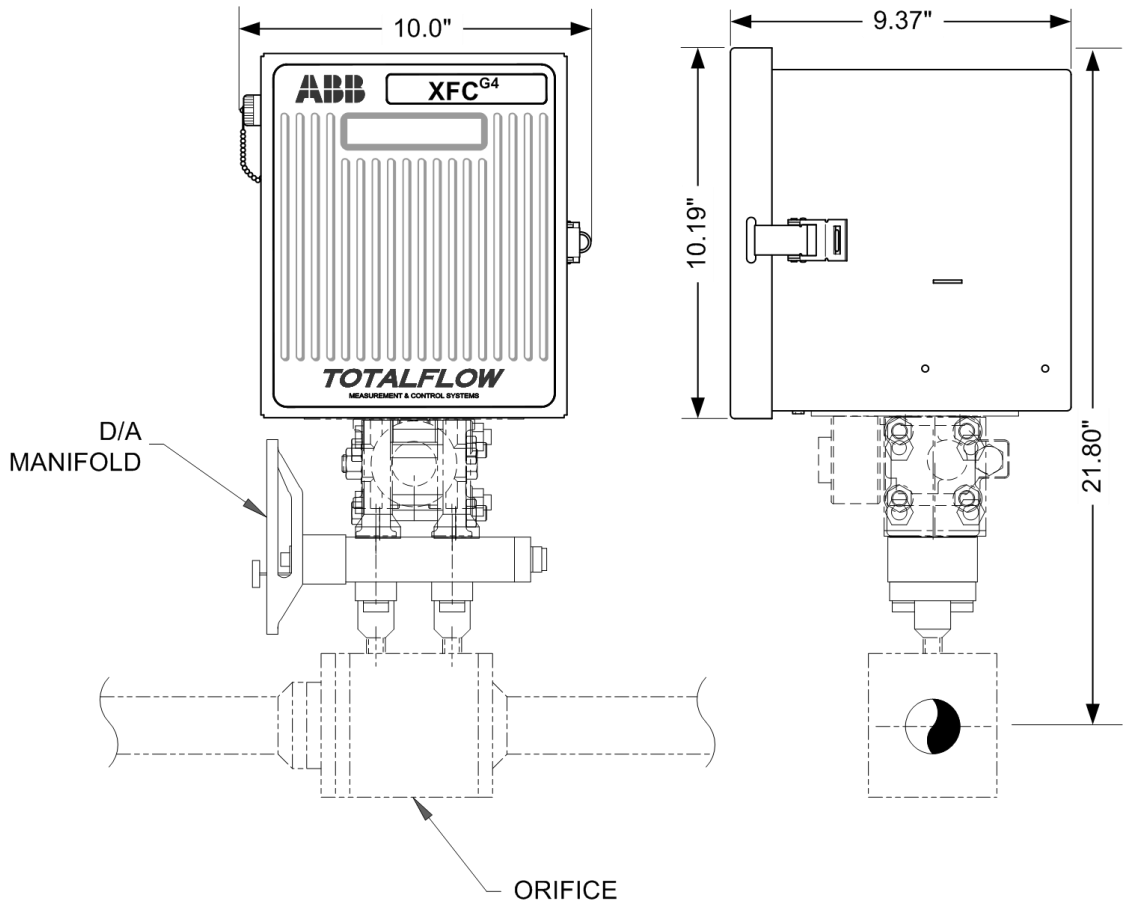
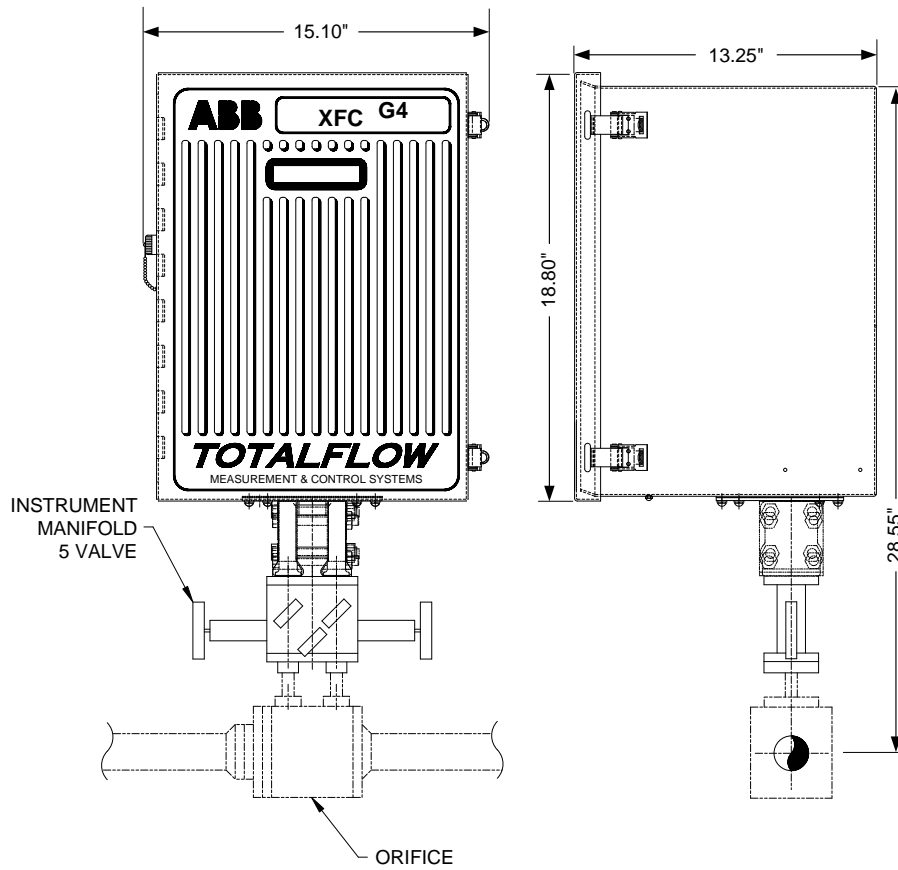

Figure 45 Model XFCG4 6410, Direct Mounted with D/A Manifold (for illustrative purposes only)
Figure 47 Model XFCG4 6713 Direct Mounted
1. Attach the XIMV to the manifold, to Figure 45 through Figure 47.
4. Refer to Figure 45 through Figure 47, and complete the installation.